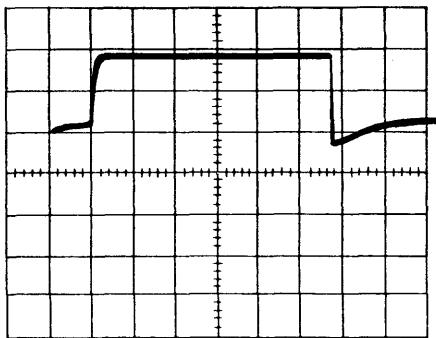

Figure 13. Disk Write Delay (2S4-3)  $300 \pm 45 \mu\text{s}$
3. Disk Write Delay: Sync on 2S4 pin 6 while performing a file write operation (Figure 13).